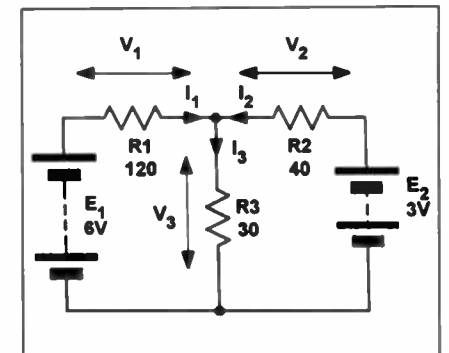
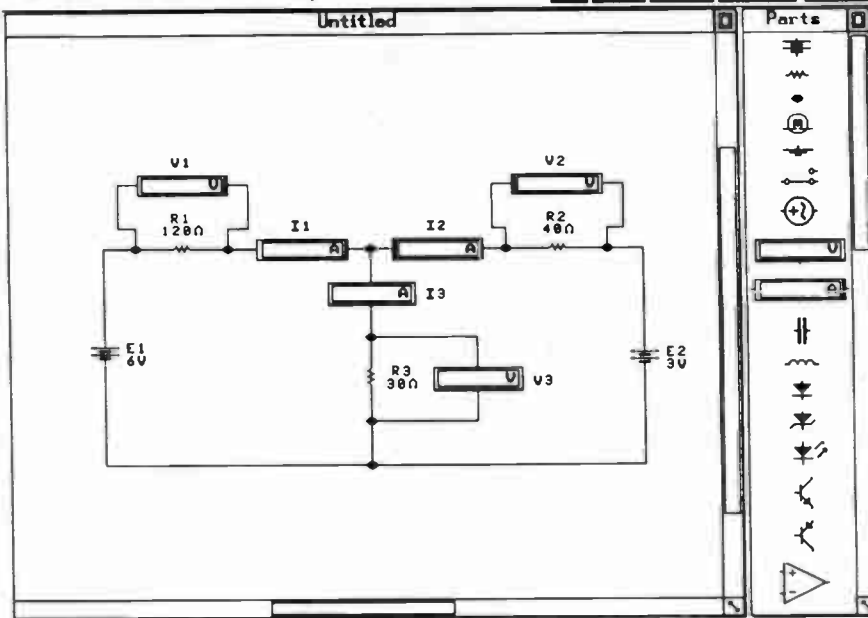

Fig. 1.32. Circuit for assignment 1.5.
Fig. 1.33. Electronics Workbench layout for Fig. 1.32.
This assignment involves making current and voltage measurements on the network of two batteries and three resistors shown in Fig. 1.32. These measurements will allow you to confirm Kirchhoff's Laws.
1. Connect the circuit shown in Fig. 1.32. The corresponding *Electronics Workbench* layout is shown in Fig. 1.33. Set the batteries, E_1 and E_2 , to "6V" and "3V" respectively and the resistors, R_1 to R_3 , to "120Ω", "40Ω", and "30Ω" respectively. (Please note that the negative terminal of the meter is adjacent to the thicker end of the rectangular symbol. You will have to use the rotate facility (using the <CTRL> and <R> keys) to align the meters as shown in Fig. 1.33.